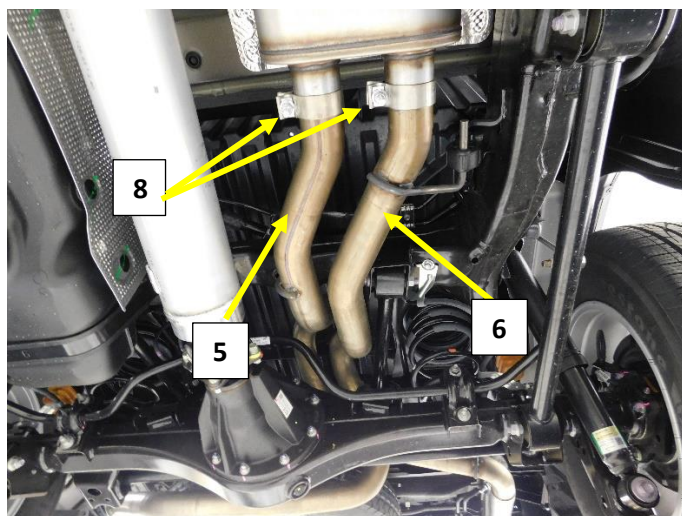

Figure.8
7. Install a supplied 2.5" band clamp (8) on each muffler outlet. **Fig.8**
8. Install the Left Muffler Outlet Pipe (6) into the mufflers left (drivers side) outlet. Install the rubber isolator on to the hanger rod and frame hanger. Rotate the outlet pipe to a $\frac{1}{2}$ to $\frac{3}{4}$ " clearance on the upper 4 link bar. Tighten the clamp just enough to prevent movement. **Fig.8/9**
9. Install the Right Muffler Outlet Pipe (5) into the mufflers right (passenger side) outlet. Rotate the pipe up and install the rubber isolator on to the hanger rod and frame hanger. Adjust the clearance between the two pipes to $\frac{1}{2}$ " just after the bend up into the chassis. Tighten the clamp just enough to prevent movement. **Fig.8/10**